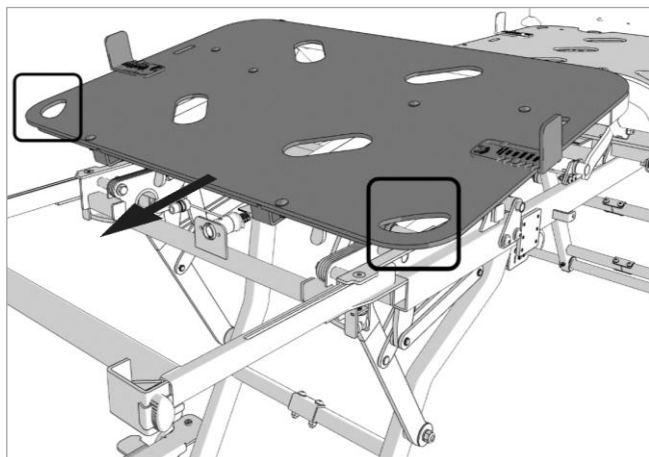
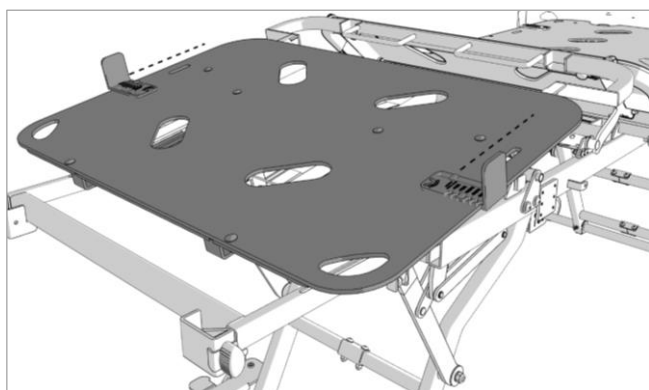

Figure 11.11
Figure 11.12
5. Hold the Legrest mattress platform by the handles (as indicated below) and pull out to the desired extension as in Figure 11.11 and Figure 11.12.